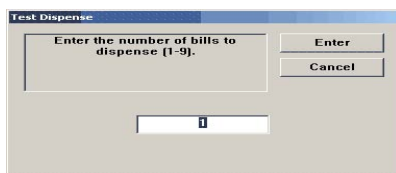

Figure 4-21. Enter # of notes.
4. Select the **Test Dispense** option. Select either individual cassettes that are installed (“A”, “B”, “C”, or “D”) or “All Cassettes”. A prompt appears asking how many notes to dispense. (Figure 4-21) The Test Dispense operation will start.